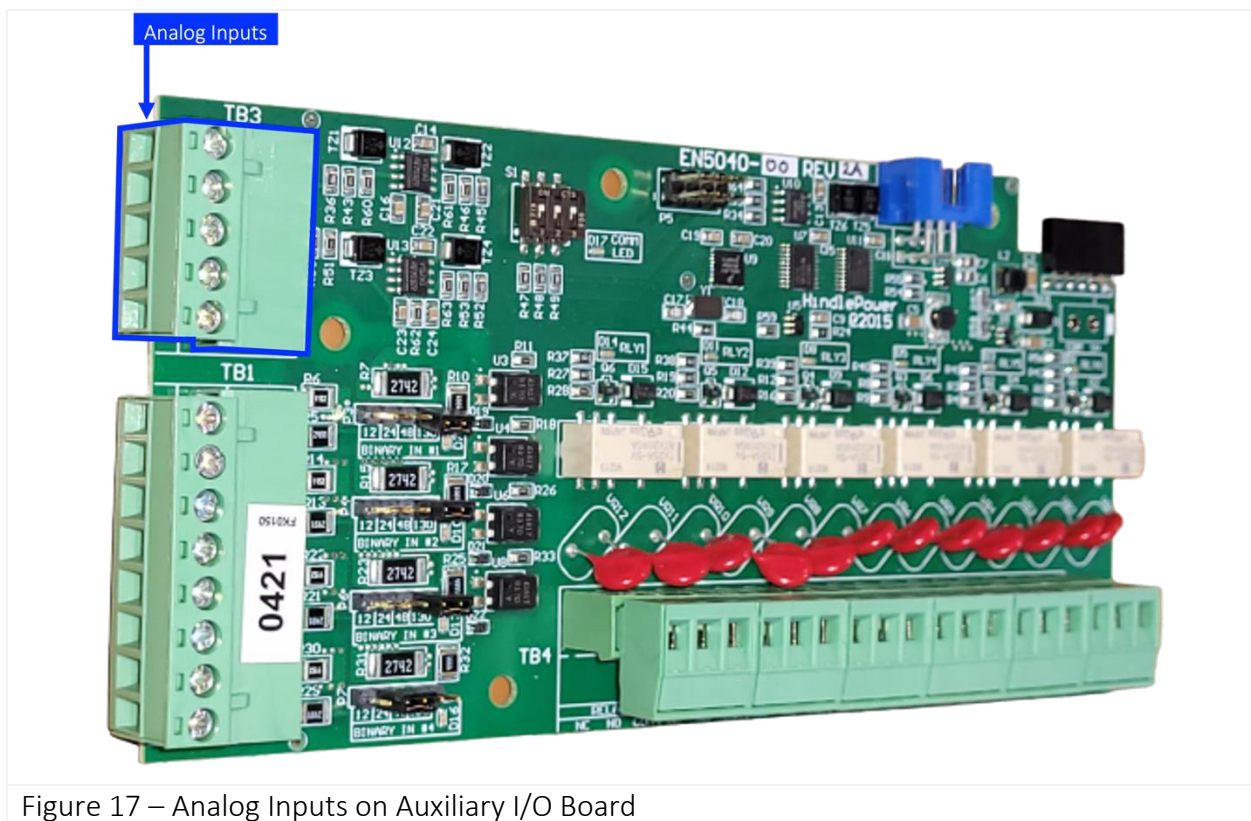

Figure 17 – Analog Inputs on Auxiliary I/O Board
The four (4) Analog Inputs shown in **Figure 17** below are rated for 0-10 Vdc. They utilize common ground, referenced to DC OUTPUT NEG, and can be used to import generic analog values. ATevo assigns each Analog Input a unique generic name such as 'AUX 1 input AN1'. This name can be changed to be readily identifiable by users (e.g., 'Ambient Temp'). ATevo will report all status and alarms with the default name, or the custom name assigned.